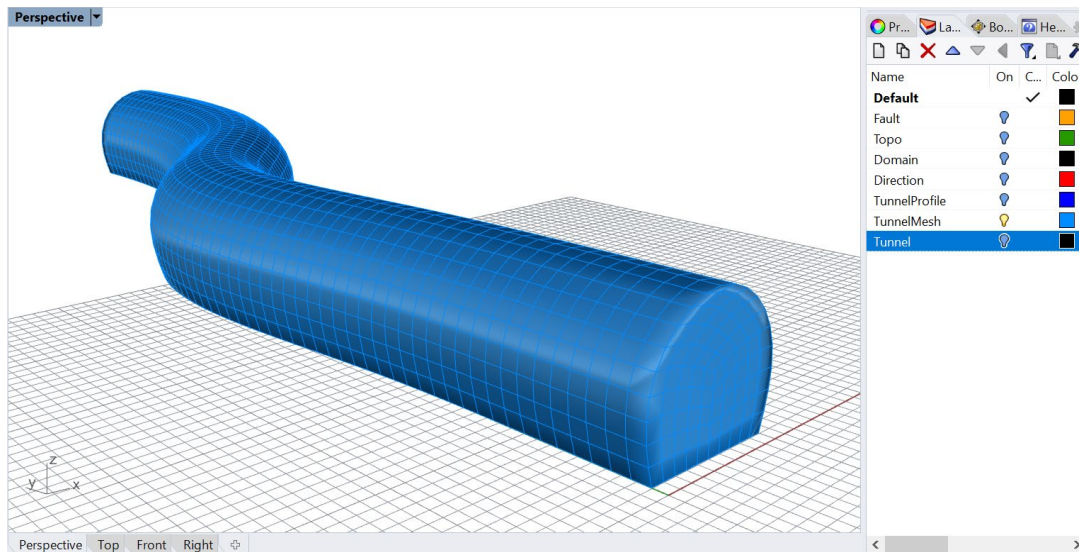

Figure 59: Surface mesh corresponding to the exterior of the tunnel's structured volume mesh.
28. Select all 21 solids corresponding to the tunnel excavation stages and type the **_BR** command or click on the  icon in the *Griddle* toolbar. Use all default **BlockRanger** parameters and set *GenerateSurfaceMesh* = *ByModel*. **BlockRanger** will create a structured volume mesh for the tunnel and will output it at the user-specified location (keep *FLAC3D* binary format as output format). **BlockRanger** will also create surface mesh corresponding to the tunnel’s external surface and will output it into *Rhino* (Figure 59). This surface mesh will be used to create an unstructured volume mesh outside the tunnel.
29. Create new layer “TunnelMesh”. Change the layer of newly created surface mesh from “Default” to “TunnelMesh”. Now turn off layer “Tunnel”, leaving only one layer active as shown in Figure 59.
To create an unstructured domain mesh that is conformal with the tunnel structured mesh, bounding surface mesh presented in Figure 59 will be used.